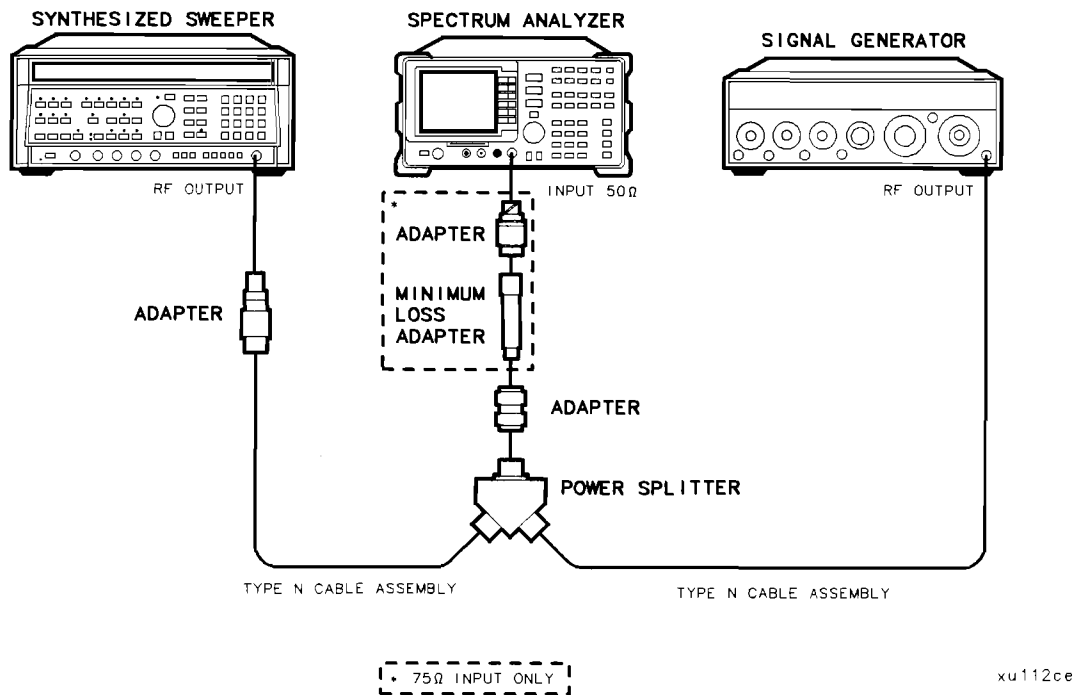

Figure 2-9. 1800 MHz Frequency Span Readout Accuracy Test Setup
1. Connect the equipment as shown in Figure 2-9. Note that the Power Splitter is used as a combiner.